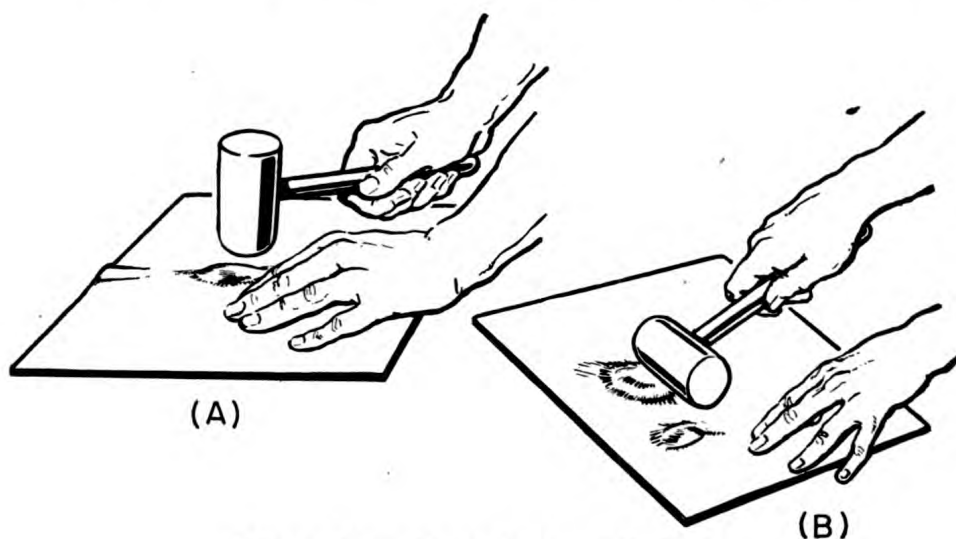

Figure 51.—Removing small dents.
It is a good idea to plan your strategy carefully before you start to hammer out a dent. If the dent is small, put the **CONCAVE** side of the damaged surface on a metal stick or hardwood block. Hammer the dent lightly with a flat-face wooden mallet. Start hammering around the edge and gradually work toward the center of the dent as in (A) of figure 51. Be as economical as you can with your hammer blows, because each blow stretches the metal a little.
If you have a large buckle to repair, the best way to do it is to place the surface of the part on a hardwood backing block. **PRESS** the metal back into place instead of hammering it. Start at the edges of the dent and press and roll the metal, holding your mallet in the position shown in (B) of figure 51, gradually work in toward the center from the edges.